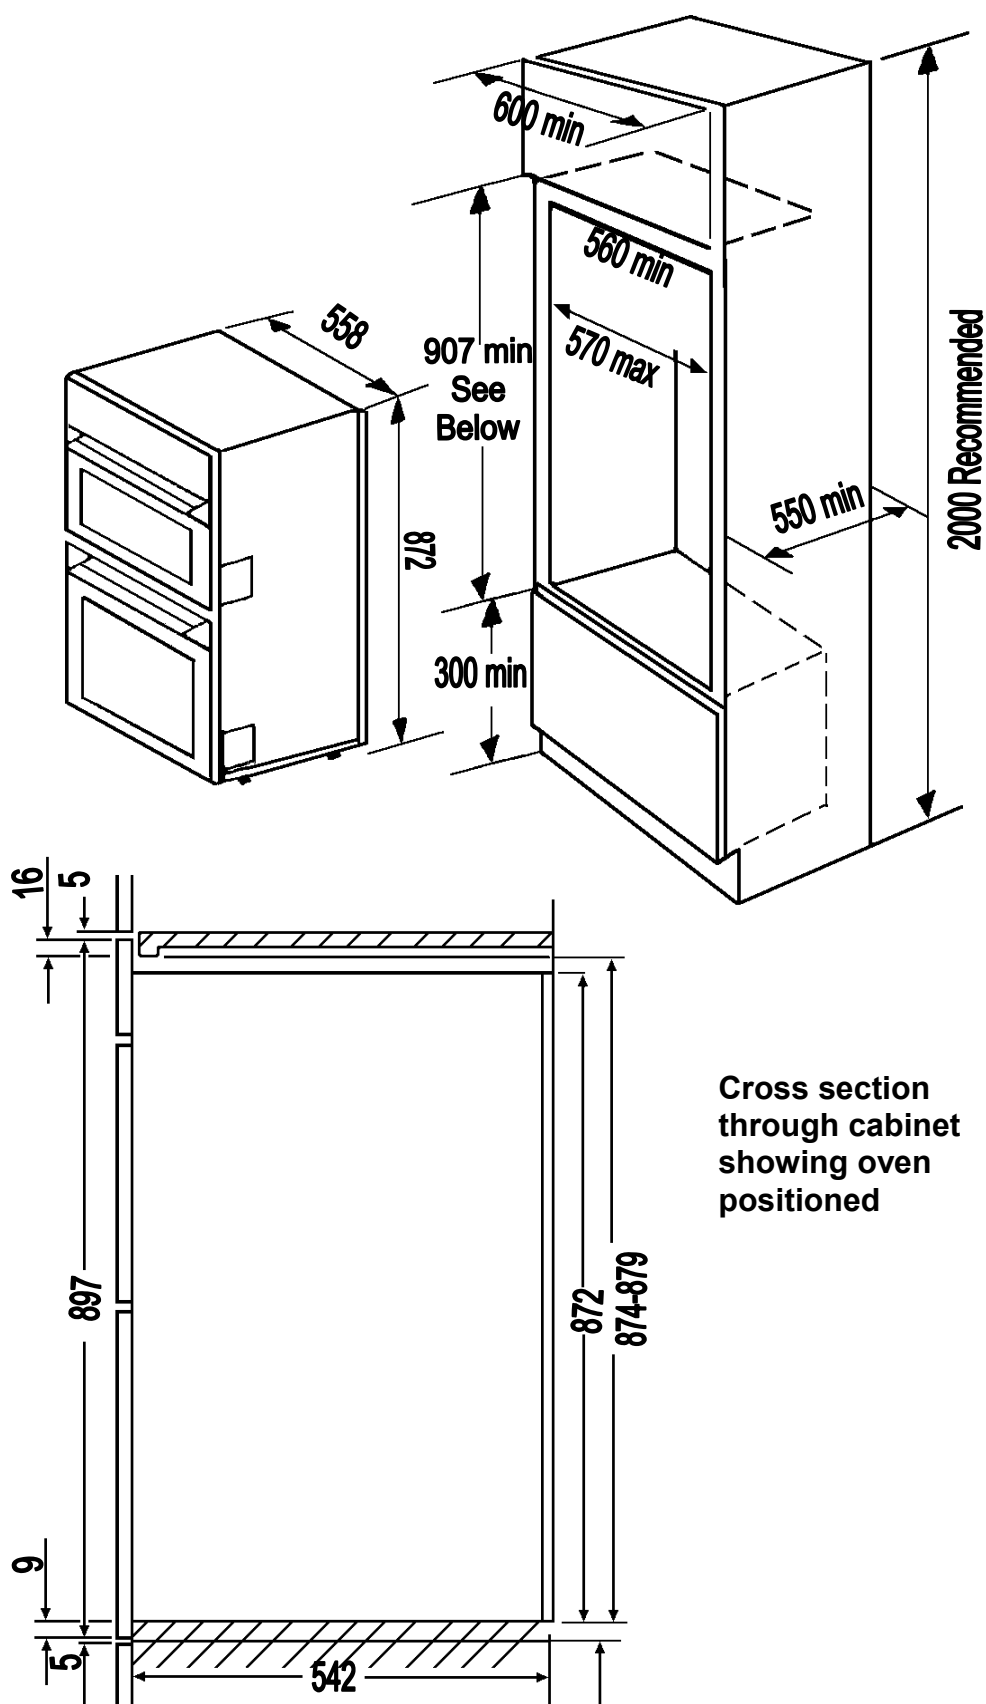

FIG. 2 BUILT IN INSTALLATION
- This appliance is designed to be fitted in cabinets of the recommended dimensions as shown (Fig. 2).
- Make sure that the cabinet is the correct size for the appliance to be fitted (Ref. Fig. 2).